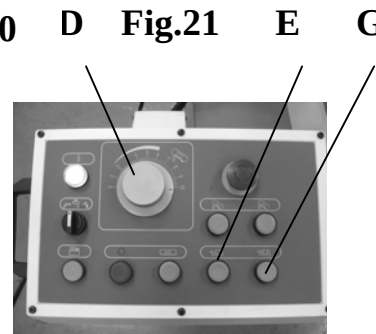

Fig.21 D E G
A). The hydraulic system on this machine consists of a hydraulic cylinder, which is operated by a needle valve. The saw frame is to be automatically raised up by the hydraulic movement, and as this is done, oil passes to the underside of the piston. The restricted flow is regulated by the feed rate control knob and governs the speed the saw frame lowers. If turn the valve (D) (fig 21) clockwise, the descending speed of the saw frame will decrease. If turn the valve counterclockwise, the descending speed of the saw frame will increase. Bottom (E) is for Hydraulic Vise Clamp. Push bottom (E) will clamp the work object. Bottom (G) is for Hydraulic Vise Release. Push bottom (G) will release the working object.